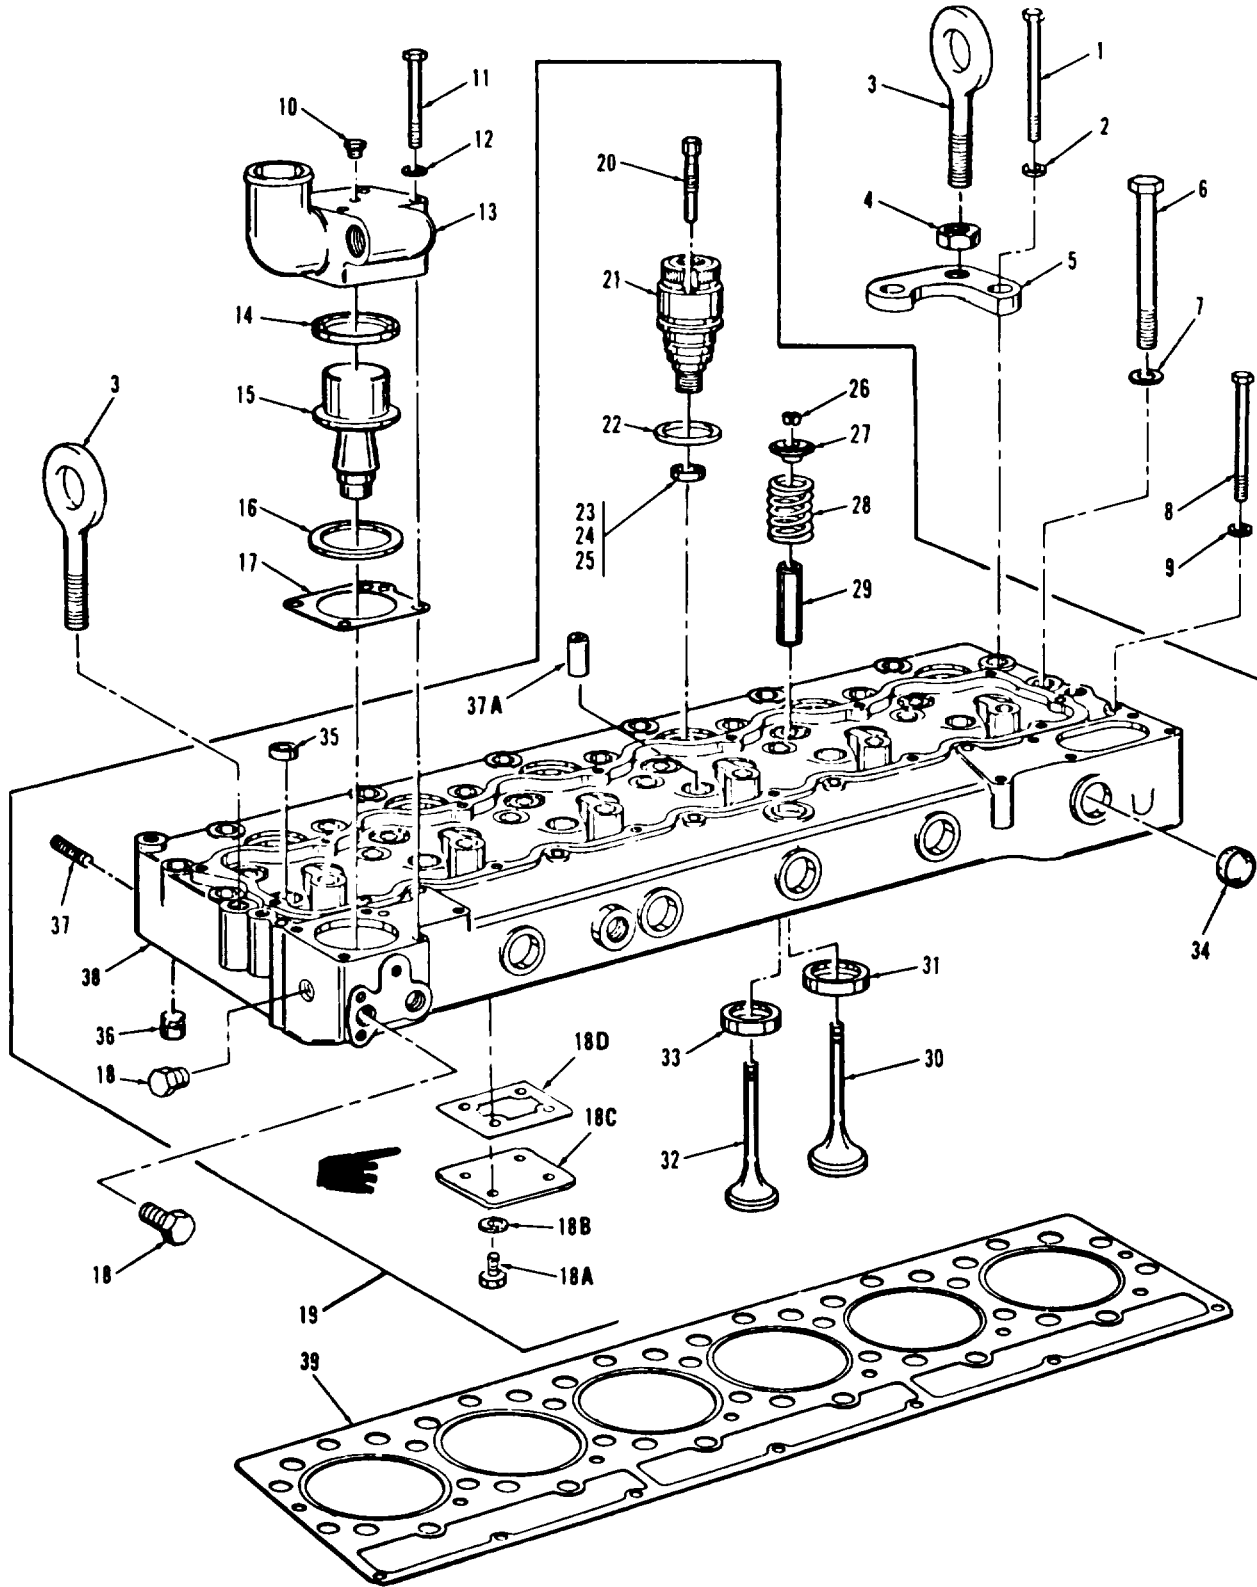

Figure 8-54. Cylinder head group, exploded view
f. Refer to figure 8-54 and remove cylinder head by removing bolts (6 and 8) and lockwashers (7 and 9). Attach a suitable lifting device to lifting eyes (3) and remove cylinder head.
Refer to figure 8-54 and disassemble cylinder head group in the order of index numbers assigned. Pay particular attention to the following:
a. Using a suitable wrench, remove precombustion chamber assemblies (21) from cylinder head (38).
b. Using a suitable spring compressor, remove springs (28) from exhaust and intake valves (30 and 32).
- d. Using suitable bushing driver, remove bushings (29, figure 8-54) from cylinder head (38).
- d. Inspect valve guides (29, figure 8-54) for cracks, distortion, and excessive wear. Check inside diameter of valve guides (29), using suitable pilot gauges. Refer to table 1-1 for acceptable diameter and maximum allowable wear limits. If limits are exceeded, replace valve guides.
c. If exhaust and intake valve faces (30 and 32, figure 8-54) and valve seat inserts (31 and 33) have been ground for proper seating, the dimensional specifications outlined in figure 8-55 must be met. If dimensions are unacceptable, exhaust and intake valves (30 and 32) and valve
Refer to figure 8-54 and reassemble cylinder head group in the reverse
Legend to figure 8-54:
a. Attach a suitable lifting device to lifting eyes (3, figure 8-54) on cylinder head. Install cylinder head and secure with bolts (6 and 8) and lock washers (7 and 8). Refer to figure 8-56 for torquing sequence.